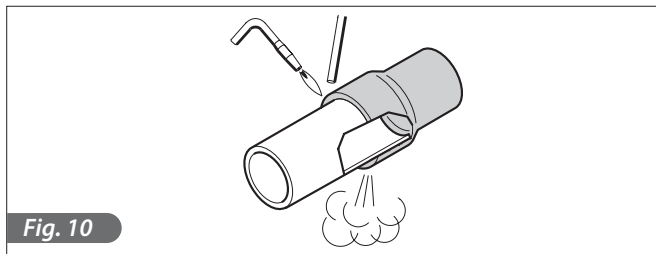

Fig. 10
- 3) Hermetic sealing (Fig.10).